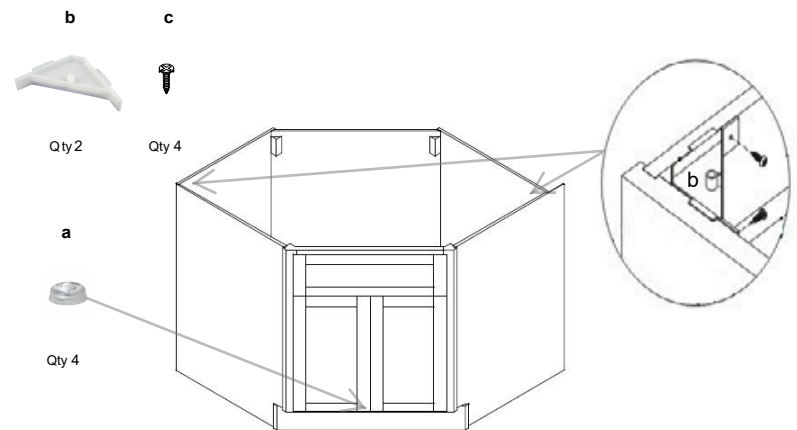

Figure 8
7. Installing the Corner Braces (Figure 8) and inserting the Drawer: Place the corner braces (b) on each top corner of the cabinet and secure them with the 1/2" Corner Brace Screws (c). Install the rubber bumpers (a) onto the corners of the doors where they contact the frame.